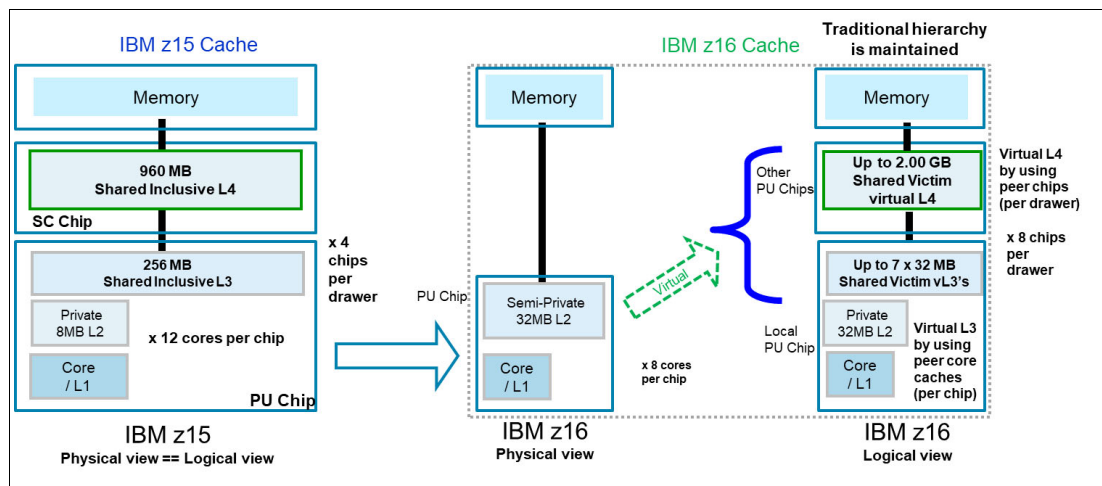

Figure 9-4 IBM z15 versus IBM z16 cache hierarchy
- ▶ On-chip L2, caches are implemented in dense SRAM. The IBM z16 removed the physical L3 (on-chip for IBM z15) and L4 (on extra storage controller single chip module - SC SCM) and implemented clustered cache algorithms that provide virtualized L3 (shared victim) and virtual L4 (shared victim) caches (see Figure 9-4).